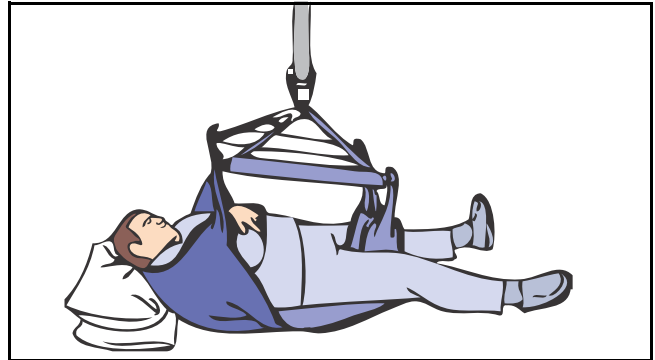

Fig. 28
- 4) When all the loops are securely attached, raise the patient from the floor in a semi-recumbent position (see Fig. 28).